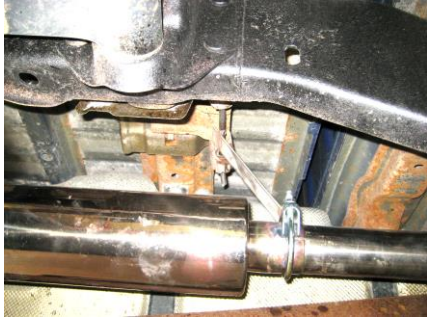

Figure 7
3. Install the **Muffler** onto the **Extension Pipe** using the **Hang Tight™ Hanger**. Then install the **Hang Tight™ Hanger** into the factory rubber insulator. Do not tighten the clamp at this time. **Refer to Figure 7.**